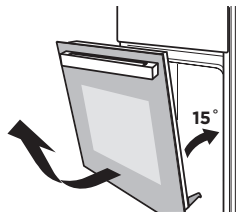

Figure 2
- 2. Close the door to an angle approximately 15°. Lift up and slowly pull the door out from the oven. (Figure 2)